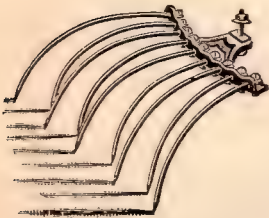

Fig. 84. Price, 75c.
**Fig. 84. Weeder Attachment** for Nos. 9, 10, 20 and 21 Single Wheel Hoes. By the application of this to the rear of the Single Wheel Hoe the same admirable work is accomplished, of fining the soil and destroying the countless small weeds, just pushing above the ground, as by the similar attachment to the Double Wheel Hoe. The Weeder can be reduced in width